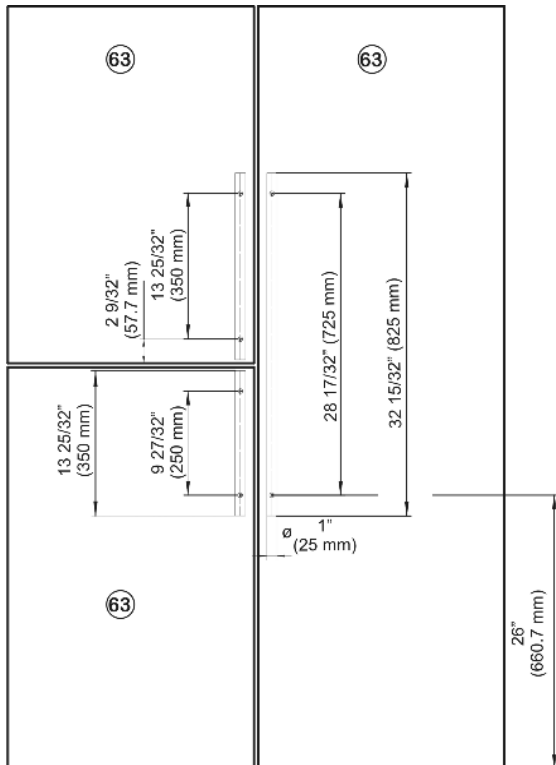

Fig. 56 Handles from the manufacturer \varnothing 1" (25mm)
- Fit handles to the overlay panel Fig. 56 (63) as shown in the diagram.